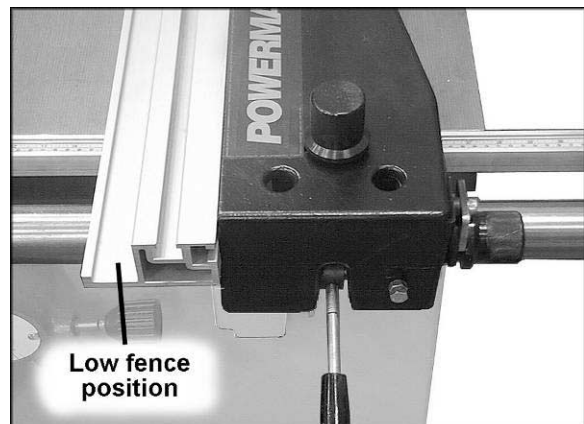

Figure 38
1. Loosen the aluminum fence lock, slide the fence off and slide it back on in the low position, as shown in Figure 38.